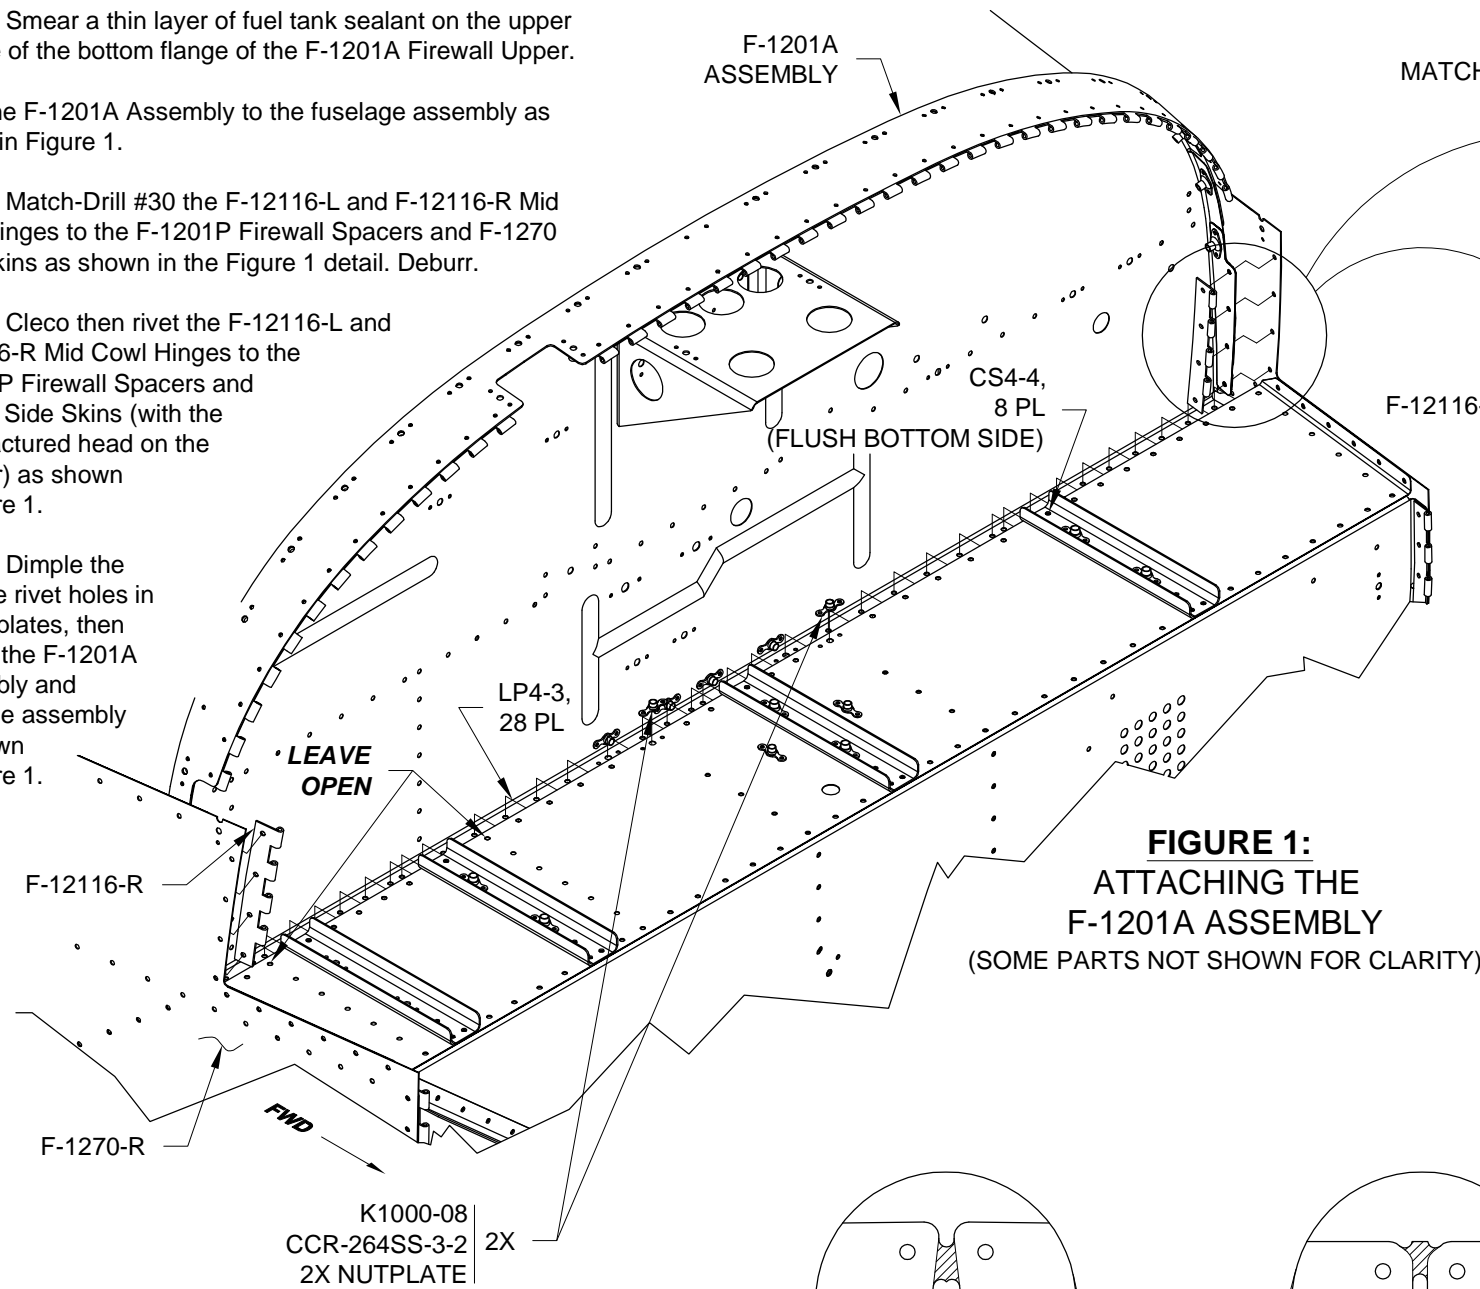

FIGURE 1:
Rivet the F-1201A Assembly to the fuselage assembly as shown in Figure 1.
Step 2: Match-Drill #30 the F-12116-L and F-12116-R Mid Cowl Hinges to the F-1201P Firewall Spacers and F-1270 Side Skins as shown in the Figure 1 detail. Deburr.
Step 3: Cleco then rivet the F-12116-L and F-12116-R Mid Cowl Hinges to the F-1201P Firewall Spacers and F-1270 Side Skins (with the manufactured head on the exterior) as shown in Figure 1.
Step 4: Dimple the nutplate rivet holes in the nutplates, then rivet to the F-1201A Assembly and fuselage assembly as shown in Figure 1.